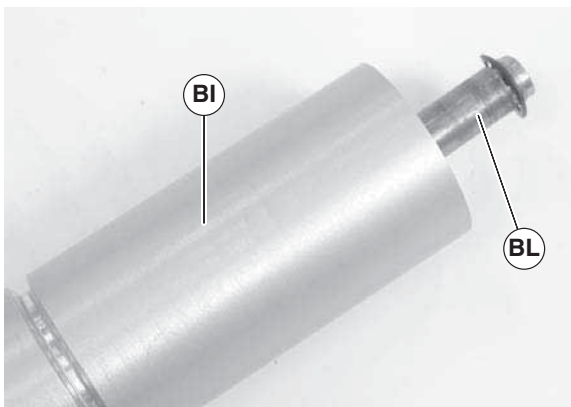

Figure 48
6. Slide the shaft assembly (Figure 48, item BL) out of the pulley (BI).
6. Slide the shaft assembly (Figure 48, item BL) out of the pulley (CN).